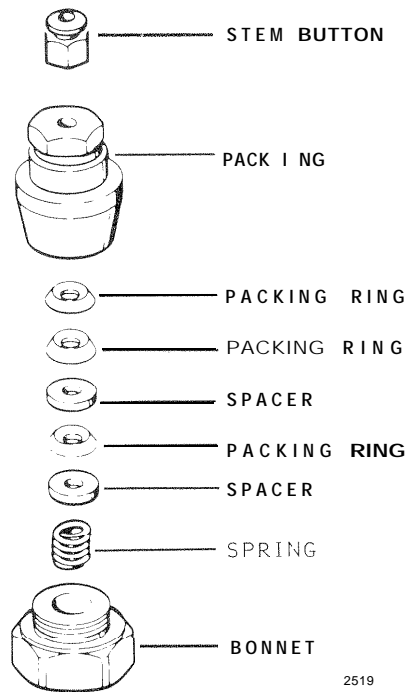

Fig. 3. Packing Assembly
1. With the operator removed, insert a nail, awl, pin, or similar instrument into the 1/16 in. diameter hole near the top of the valve stem. Prevent stem from turning and remove the stem button ⑬. Important: DO NOT remove the setscrew from the top of the button.
2. Pull stem up and remove packing nut ⑥, old packing ⑱ spacers ⑦ and packing spring ⑨. See Fig. 3 for exploded view of packing components.